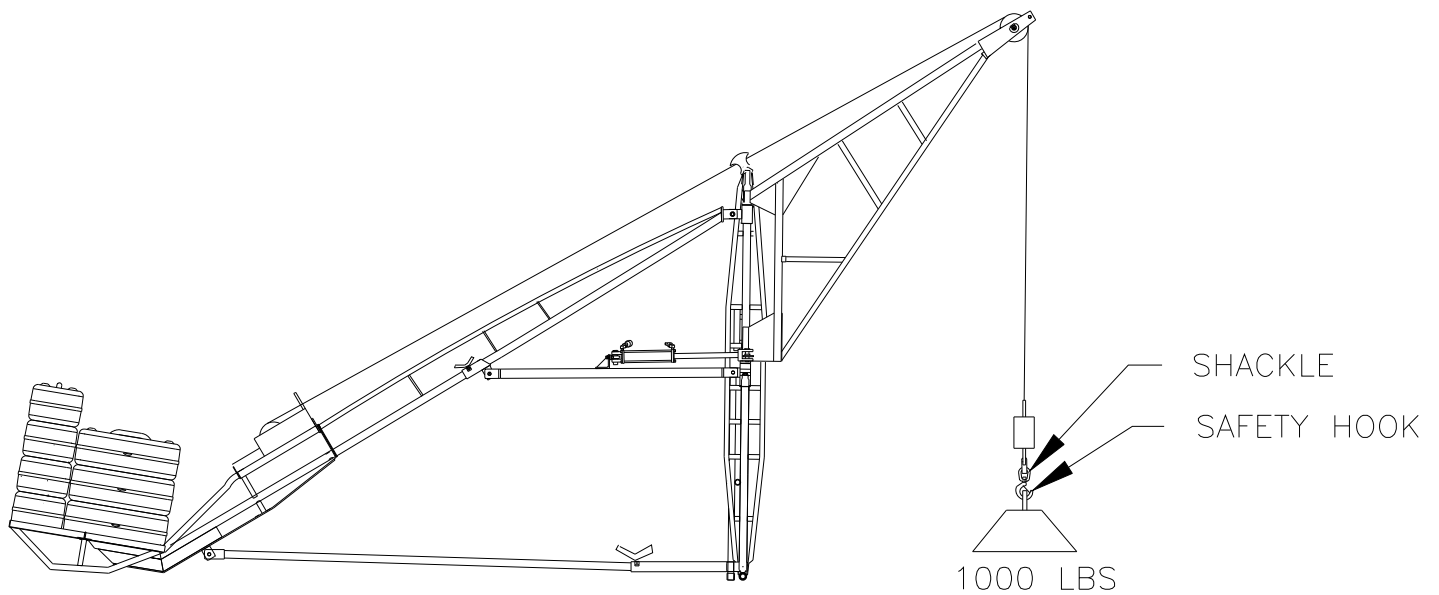

Figure 3-9.
6. Attach shackle and safety hook as shown in Figure 3-9.